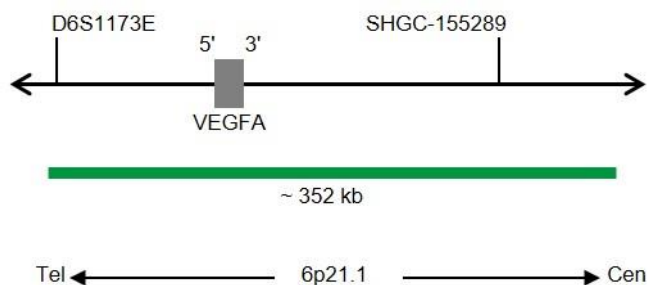

Fig. 1: SPEC VEGFA Probe map (not to scale)
- ZyGreen (excitation 503 nm/emission 528 nm) labeled polynucleotides (~10 ng/μl), which target sequences mapping in 6p21.1* (chr6:43,633,271-43,985,142) harboring the VEGFA gene region (see Fig. 1).